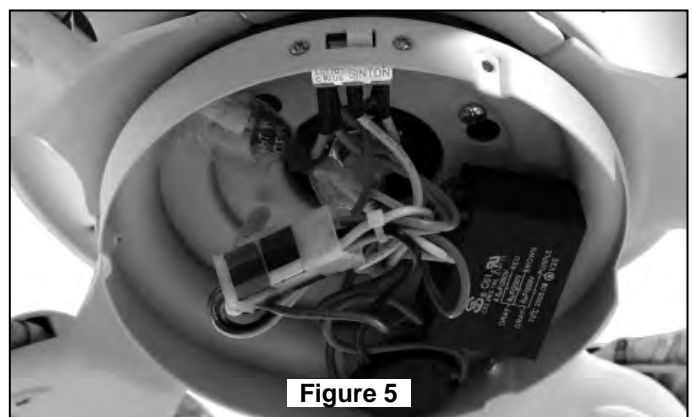

Figure 5
8. Assemble the Adapter assembly on the Housing Support bracket and tighten three screws. (Figure 5)
9. Securely attach the 9-pin switch cup connector to wiring harness socket within Adapter assembly. (Figure 5)